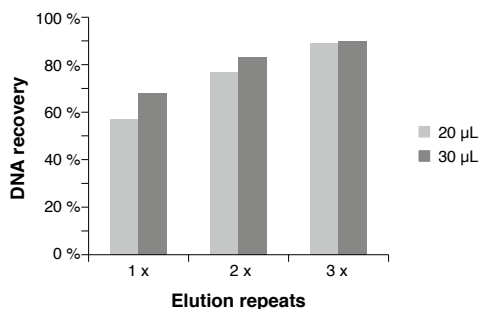

Figure 4: Multiple elution steps increase recovery
- **Do 2 or better 3 elution steps with 20 or 30 µL fresh elution buffer.** Figure 4 demonstrates the increase in recovery for a 5 kbp fragment by 20–30 %.